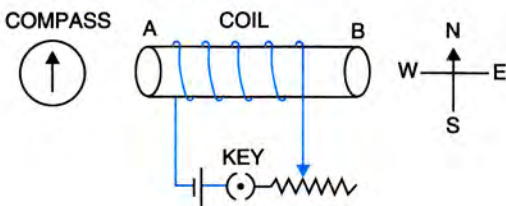

Fig. 10.18
13. The diagram in Fig. 10.18 shows a spiral coil wound on a hollow cardboard tube AB. A magnetic compass is placed close to it. Current is switched on by closing the key. (a) What will be the polarity at the ends A and B ? (b) How will the compass needle be affected ? Give reason.